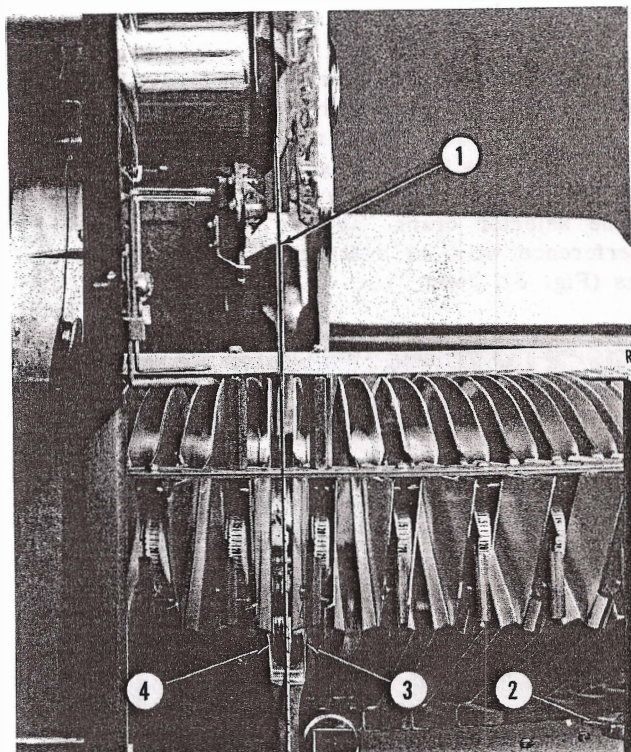

Fig. 56. CENTER LINE FOR BACK STOP PAWL SETTING
(3) The right hand back stop pawl should be set in the same manner as stated in steps (1) and (2) above.
(4) The same procedure will be followed to adjust the back stop pawls on the 2410.
(5) The back stop pawls on the 2404 are located at the front of the chassis mounting plate to the left and right of the center. The adjustment procedure will be the same as described for the 2400. Figure 56 shows one compartment of the record carrier located on the center line with the left hand record lift arm. This alignment should be checked at eight sectors of the record carrier.